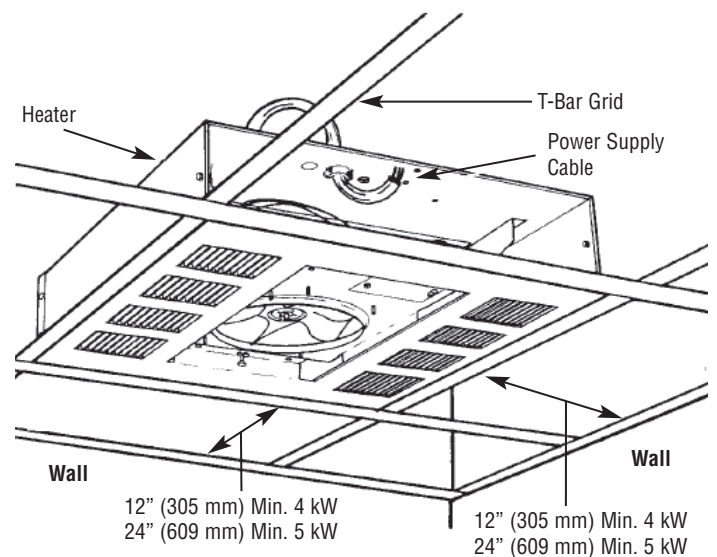

Figure 4
14. Position the heater in the T-bar grid (Figure 4) and secure as required.